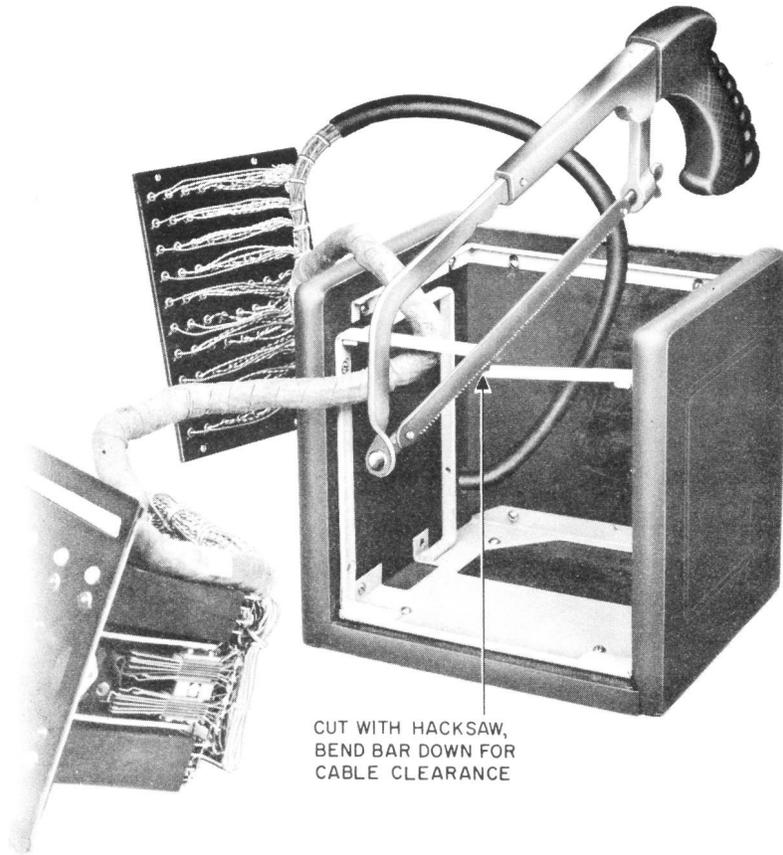

Fig. 12 — Preparing Wooden Key Box for Removal of Key Unit
2. Saw metal frame bar as shown in Fig. 12.